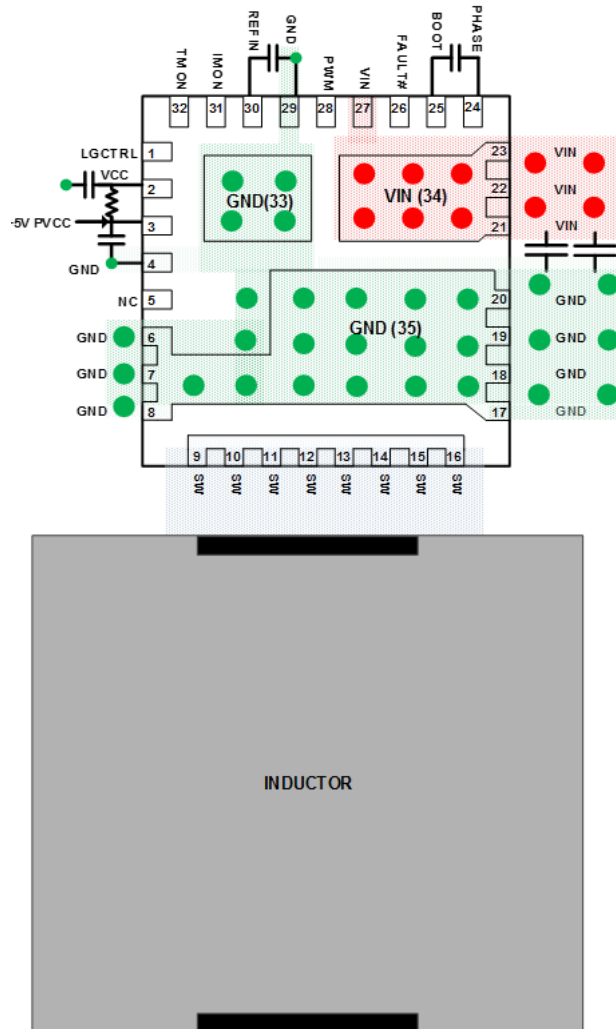
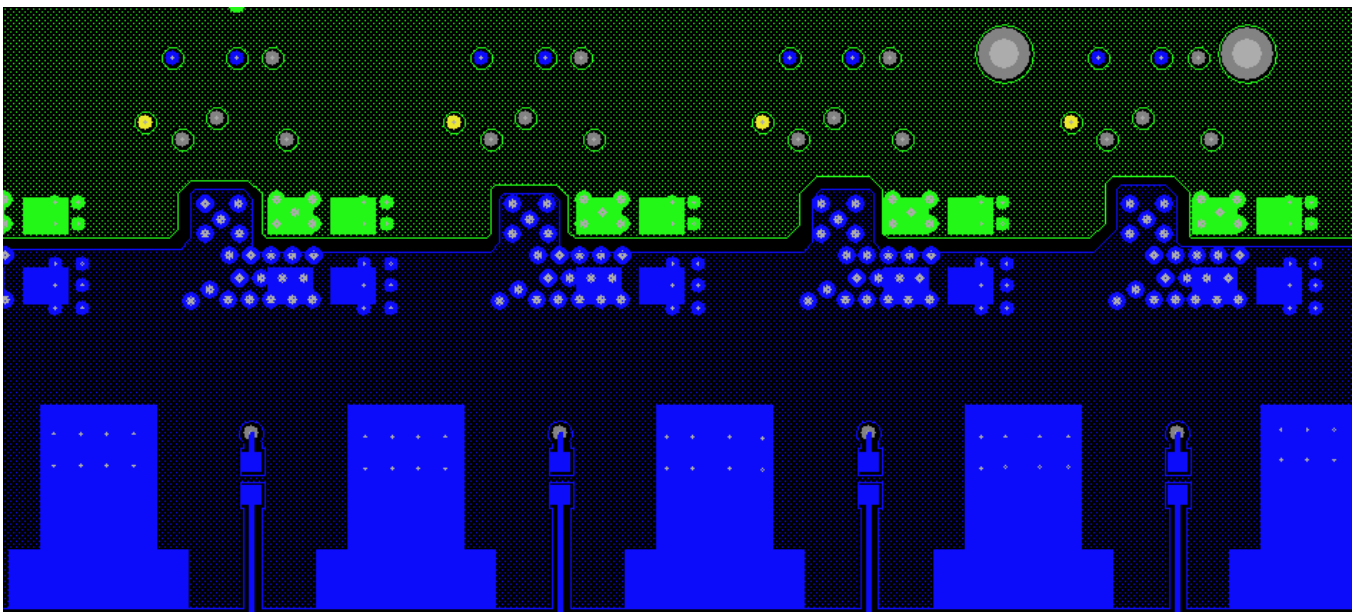

FIGURE 15. SINGLE-PHASE PCB LAYOUT FOR MINIMIZING CURRENT LOOPS
FIGURE 17. MULTIPHASE PCB LAYOUT EXAMPLE BOTTOM LAYER
- Place multiple 10 μ F or greater ceramic capacitors directly on the device between VIN and GND as indicated in Figure 15 on page 14. This is the most critical decoupling and reduced parasitic inductance in the power switching loop. This will reduce overall electrical stress on the device as well as reduce coupling to other circuits. Best practice is to place the decoupling capacitors on the same PCB side as the device. For a design with tight space requirements, these decoupling capacitors can be placed under the device, i.e., bottom layer, as shown in Figure 17 on page 15.
- Place PVCC, VCC and BOOT-PHASE decoupling capacitors at the IC pins as shown in Figure 15 on page 14.
- The IMON and IREF network and their vias should not sit on the top of the VIN plane, a keep out area is recommended, as shown in Figure 17 on page 15.